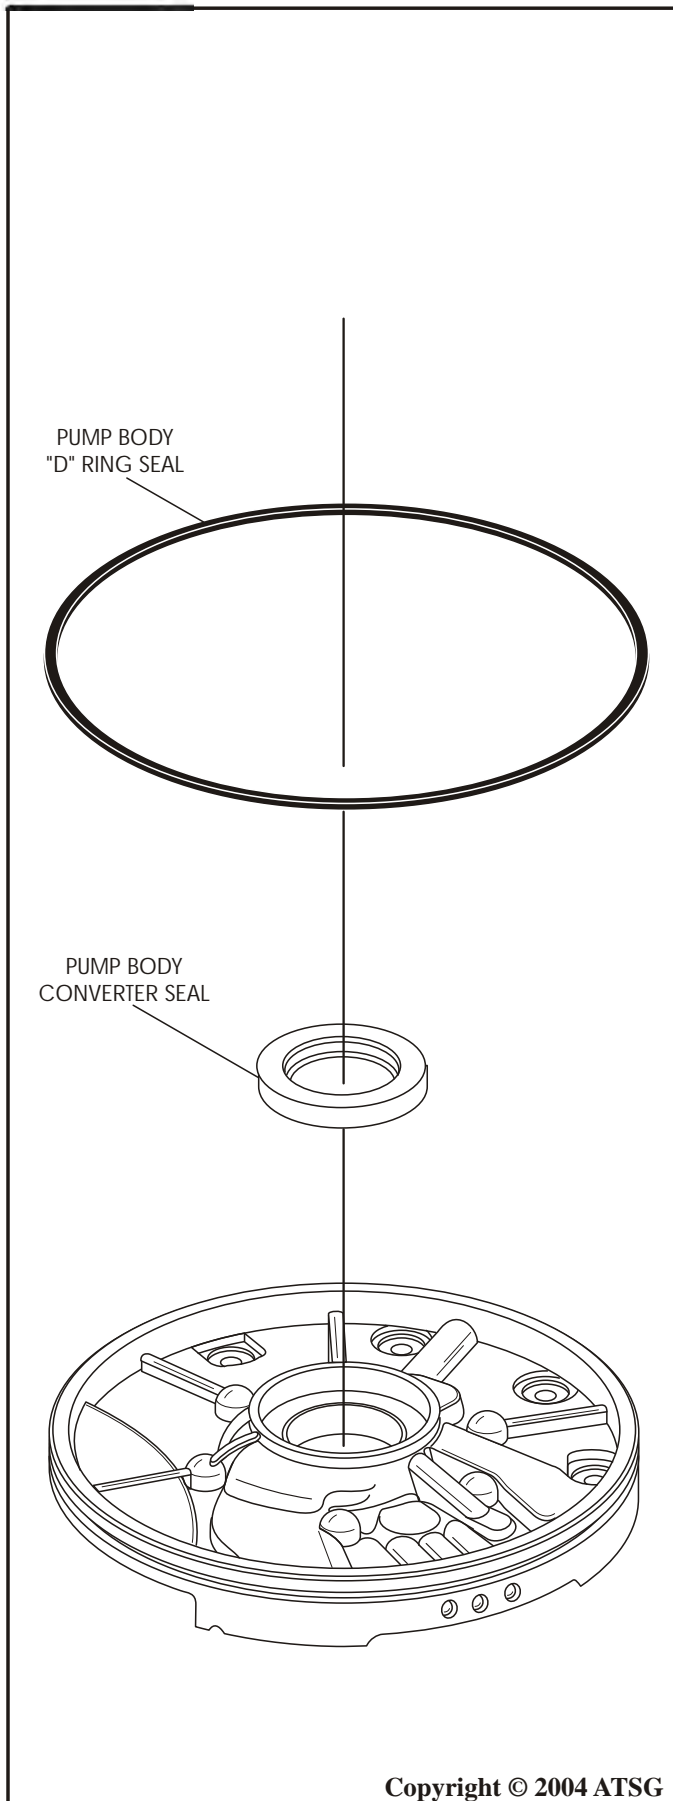

Figure 56
6. Install a new oil pump body converter seal, as shown in Figure 56.
7. Install new oil pump body to converter housing "D" ring seal into the groove (See Figure 56).